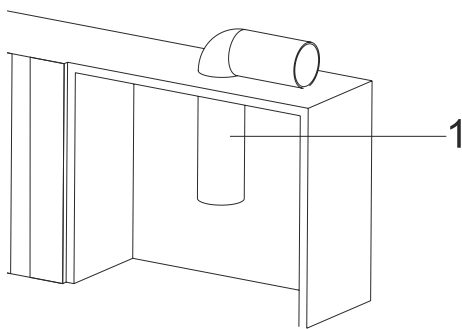

Fig. 13
2. → Bring the air exhaust pipe to the cabin in which the appliance will be mounted on (Fig. 13).